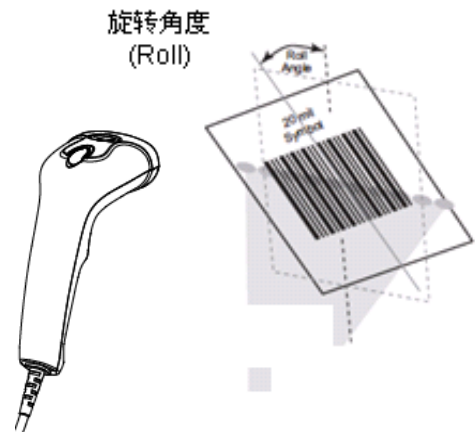

Fig. 1-8
- ✧ Roll : $\pm 30^\circ$, 0° Pitch and 0° Skew (Fig. 1-8)